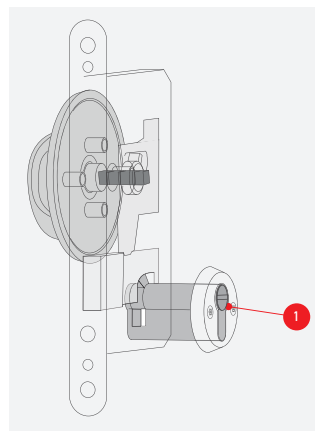

Figure 10.1
• 1 Way Staff Override System (Figure 10.1)